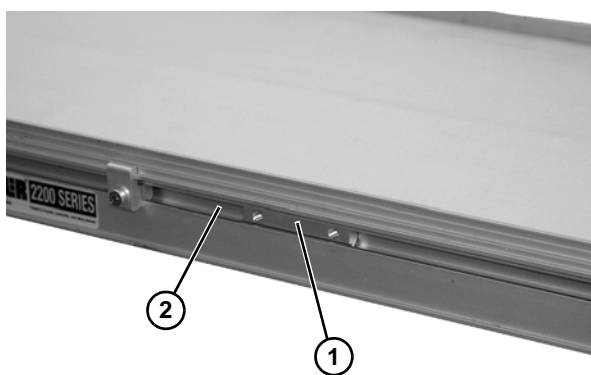

Figure 8
1. Locate brackets. Exploded view shown in Figure 8.
2. Install M6 T-bar (**Figure 8, item 1**) in T-slot (**Figure 8, item 2**).